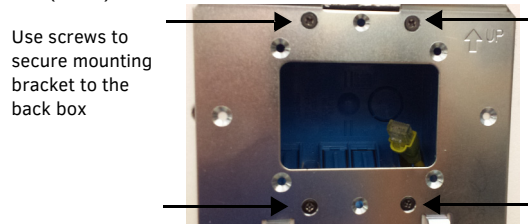

FIG. 2 SECURE THE METAL BRACKET TO BACK BOX
3. Secure the metal mounting bracket to the back box using the provided screws (FIG. 2).